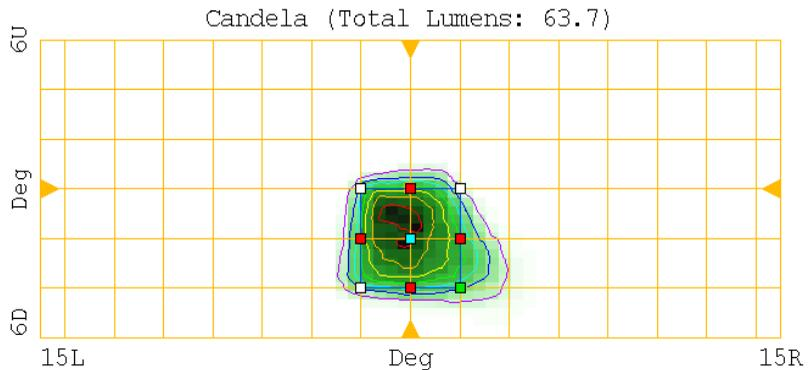

Figure 1.22 Output view showing desired aim for segment S3
- 2 Move and change the width of the aim box of the segment to match that shown in Figure 1.22.